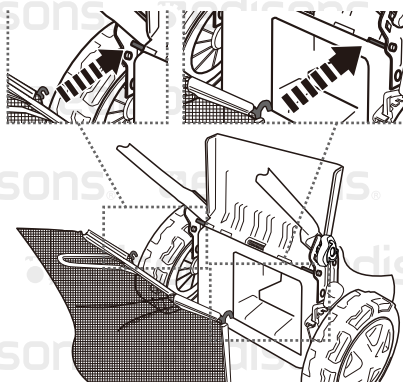

Fig. 4
- Open the deflector guard **(24)** hold it in position and align the hooks on the grass catcher **(25)** with the support to hang it onto it (Fig. 4).